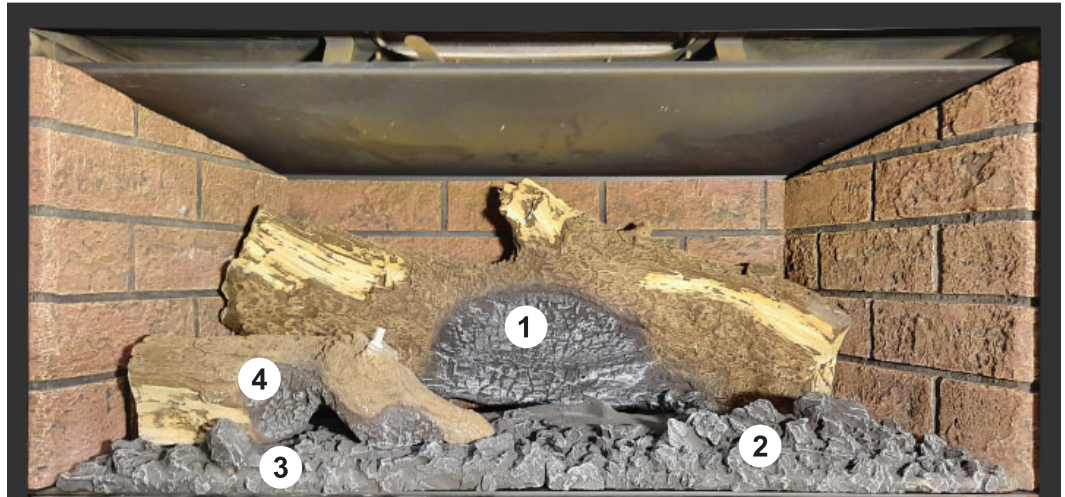

Fig.4
- 4. Position **#4 log** on top of **#3 ember base**. (Fig.4)